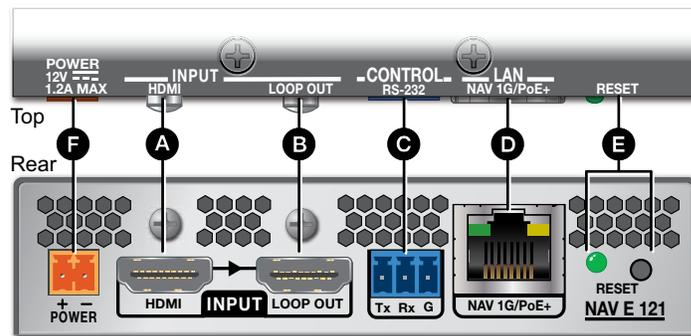

Figure 2. NAV E 121 Rear Panel Connectors and Features
- D NAV 1G/PoE+ port** (see **figure 2** on page 5) — Connect to an Ethernet LAN on which one or more decoders also reside for streaming, control, and PoE+.